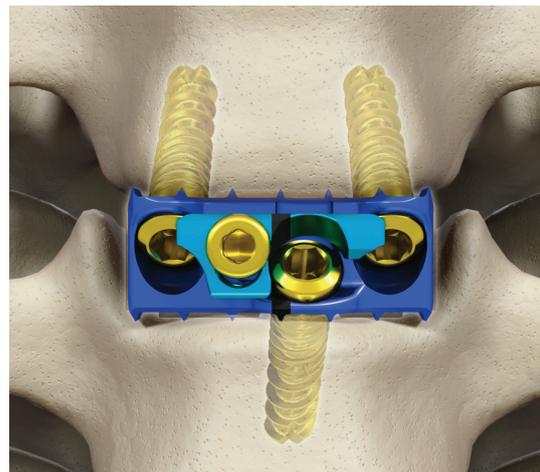

Figure 36
- Turn the driver clockwise. As the screw tightens, the teal locking cap will slide over the screw heads. Turn the torque limiting handle until an audible click is heard when the locking mechanism is tightened to 4 in-lb. The locking mechanism and torque limiting handle will provide visual, audible and tactile confirmation that the locking mechanism is fully secured and the screw heads are partially covered (Figure 36).